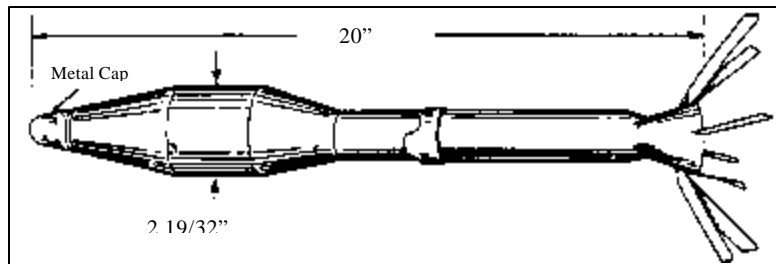

Figure 48. LAW Rocket.
- (3) Fuzes can be delay, nondelay, point-detonating, base-detonating, proximity, self-destruct, or combinations of these types.
- (4) The warhead can be filled with explosives, toxic chemicals, WP, submunitions, CS, or illumination flares.
- (5) Rockets can be launched or fired from individual weapons (such as the light antitank weapon (LAW) system), see Figure 48, aircraft, mobile-launch vehicles, or stationary launch pads.